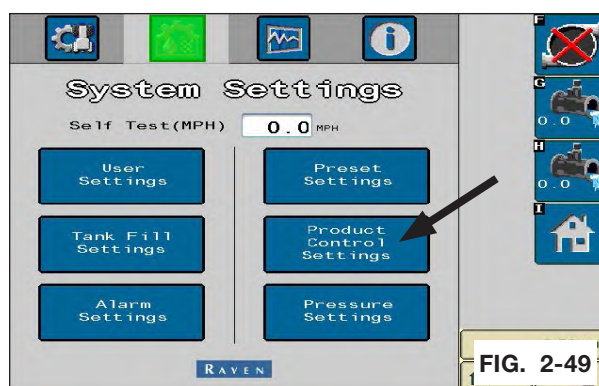

FIG. 2-49
18. Go to the product control settings page. (FIG. 2-49).